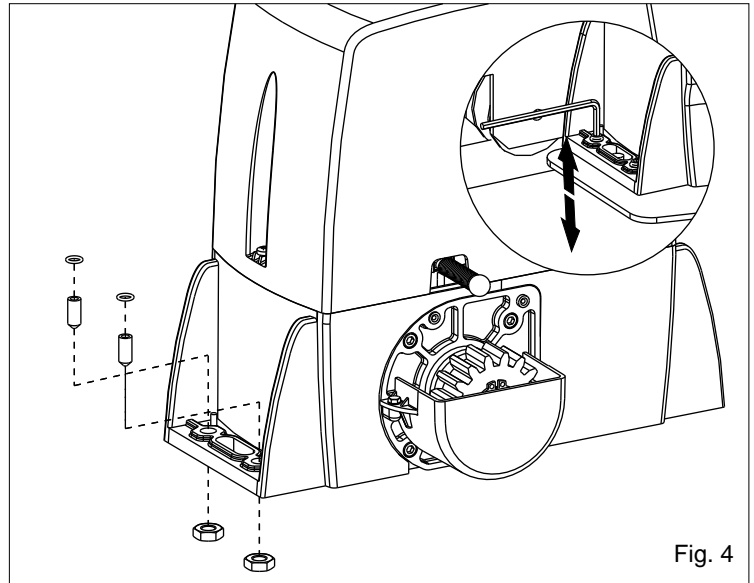

Fig. 4
**4.1.** Insert the 4 grains into the special holes, so that it is possible to adjust the motor reducer height on the plate (Fig. 4).